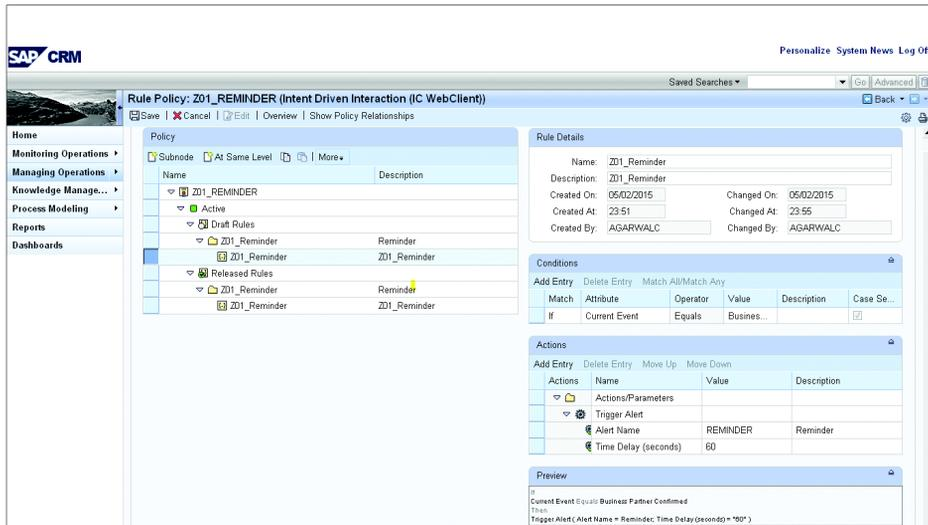

Figure 4.125 Maintaining the Rule Policy with the Alert Details
4. Create the DRAFT RULES and subnode to add the RULE DETAILS (i.e., CONDITIONS and ACTIONS). In this example, the conditions are if the current event equals business partner confirmed, then an action reminder is triggered with a delay of 60 seconds. This will notify the customer service representatives to wrap a call and jump to interaction history when accessing the TIME TO WRAP UP! link on the alert screen (see Figure 4.125).